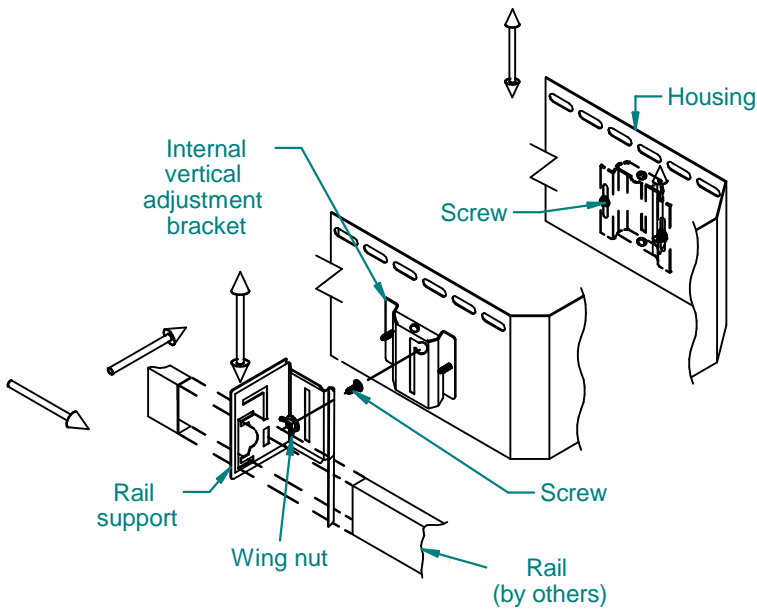

Fig.6 CORRECTIVE ADJUSTMENT
6. Adjust fixture so aperture frame is flush with finished tile face or 1/16" above. Do not allow aperture frame edge below tile face or more than 1/16" above. Tighten rails to ceiling grid permanently. (See Fig. 6)